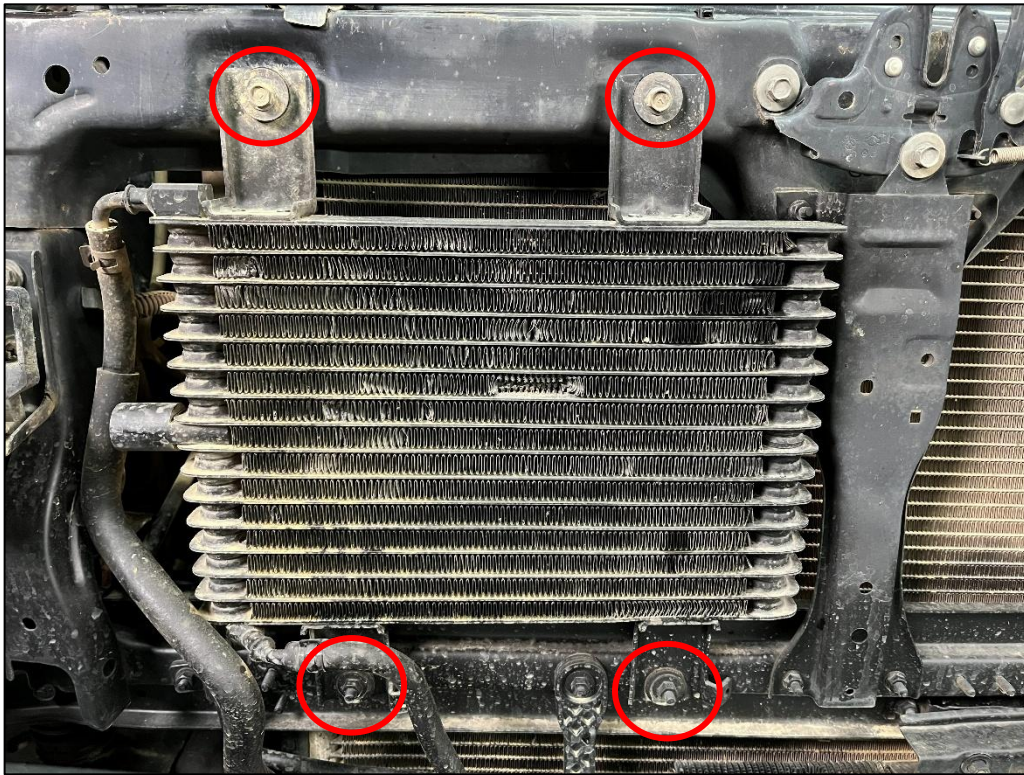

Figure 3
4. Disconnect the (2) two bolts and (2) two nuts securing the OE Transmission Cooler to the Core Support. Retain this hardware as it will be reused. *Figure 3.*